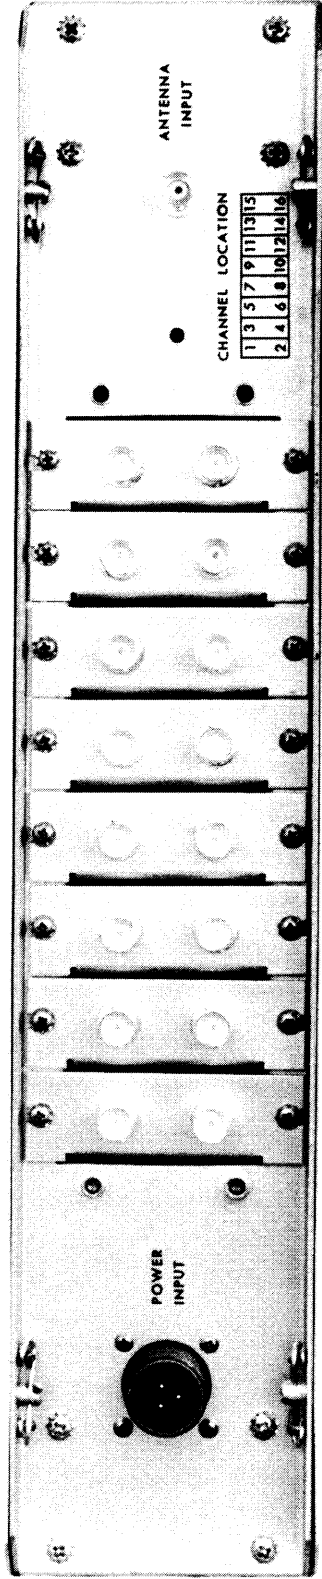

FIGURE 2-1 REAR PANEL, AMC-21A
(1) Make the following connections from external equipment to the AMC-21A. Refer to figure 2-1 for guidance.